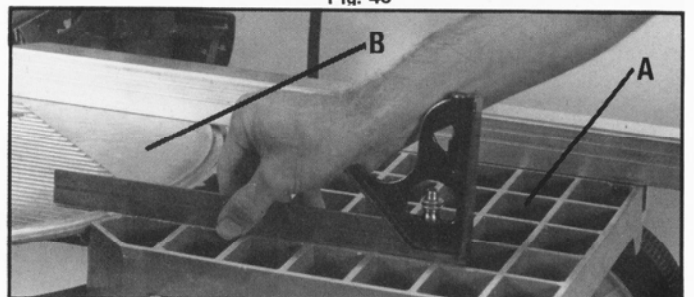

Fig. 41
3. Place the straight edge on the front of the side table (A) with the straight edge extending slightly over the center disc (B), as shown in Fig. 41.